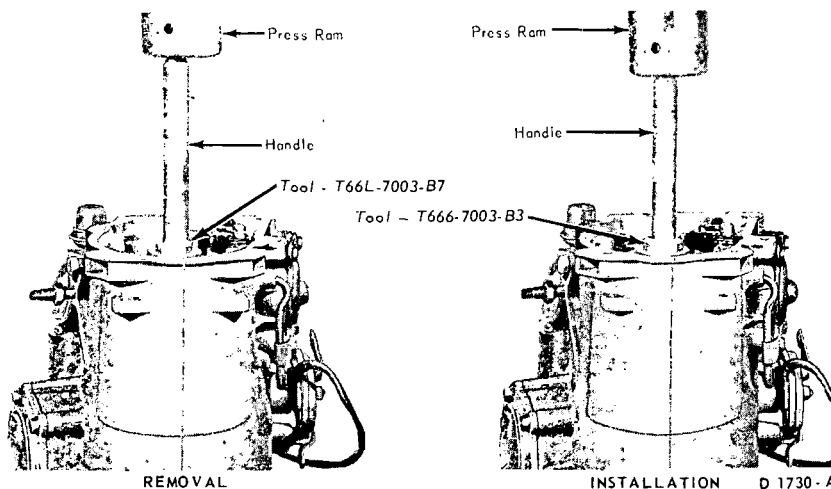

FIG. 68—Replacing Transmission Case Bushing
1. If the transmission case bushing is to be replaced, press the bushing out of the case with the tool shown in Fig. 68.
2. Install a new transmission case bushing with the tool shown in Fig. 68.